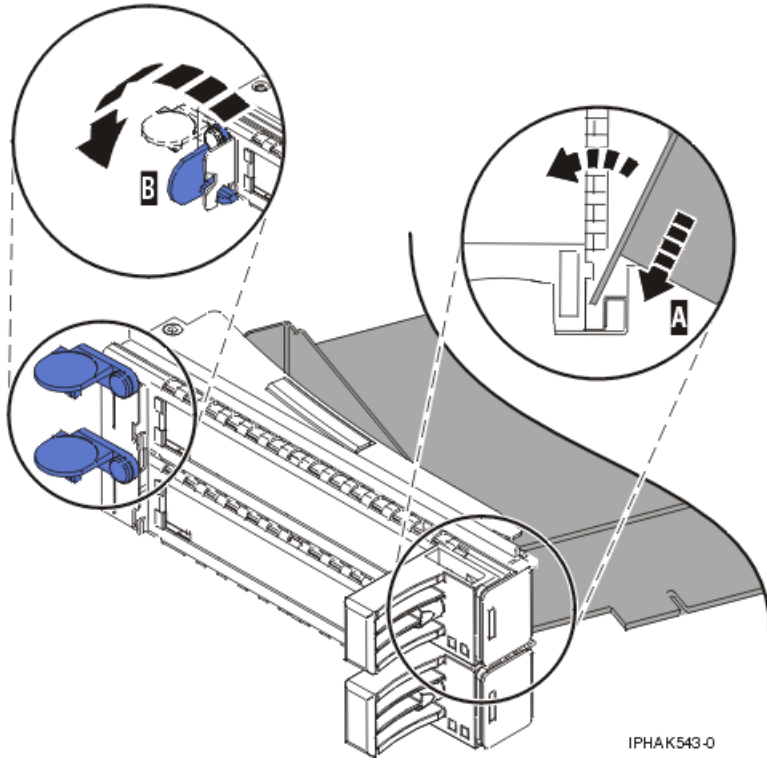
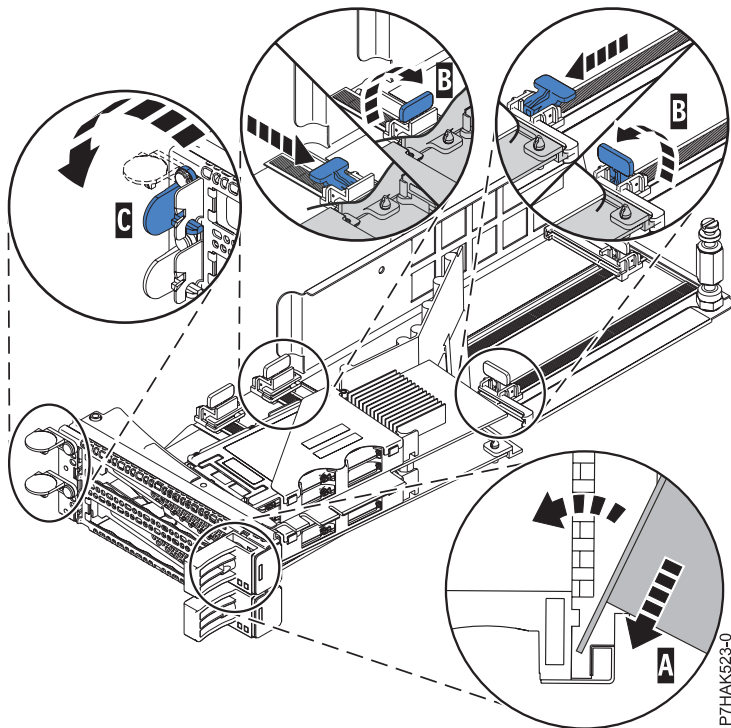

Figure 51. Adapter replaced in the PCI adapter cassette
Figure 52. Replacing a PCIe RAID and SSD SAS adapter into the PCI adapter cassette
- a. With the tailstock clamp in the open position, insert the adapter firmly into the tailstock retaining channel (A). For a typical PCI adapter, see Figure 51 on page 67. For a PCIe RAID and SSD SAS adapter, see Figure 52 on page 67.
- c. Close the tailstock clamp (C).